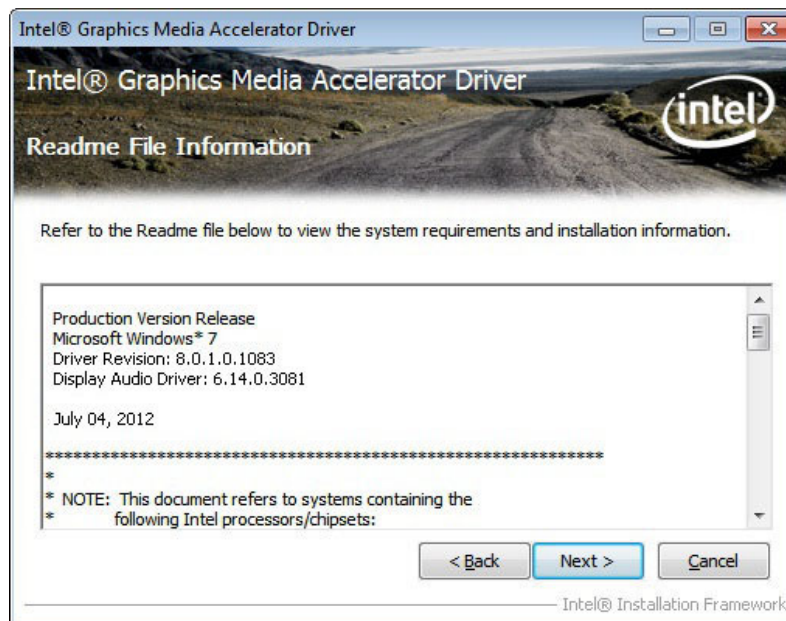

Figure 6-11: VGA Driver Read Me File
Step 10: The Read Me file in **Figure 6-11** appears.